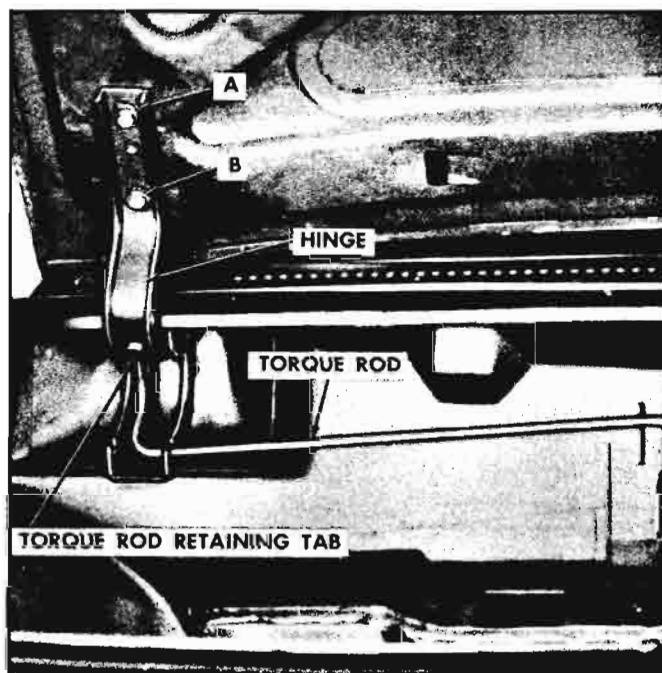
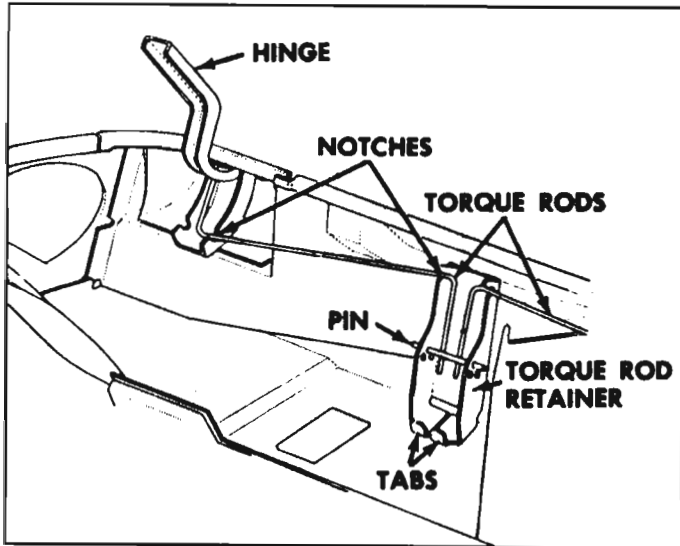

Fig. 10-14—Front Compartment Lid Hinge
Fig. 10-15—Front Compartment Lid Torque Rods
3. With aid of a helper remove lid attaching bolts "A" and "B" (fig. 10-14) from each hinge and remove compartment lid.
- a. To raise rear edge of lid at hinge area, place shim between hinge strap and lid inner panel at rear attaching bolt location indicated by "B" (fig. 10-14).
- b. To lower rear edge of lid at hinge area, place shim between hinge strap and lid inner panel at front attaching bolt location indicated by "A" (fig. 10-14).
3. Place end of large screwdriver or other suitable tool at base of torque rod retainer immediately behind tabs shown in Figure 10-15. Insert block of wood, the approximate width of retainer opening, between shaft of screwdriver and ends of both torque rods immediately below torque rod attaching pin; then carefully pry block rearward to take tension of torque rods off pin and remove pin.
1. Position appropriate torque rod behind retaining tab on movable portion of affected hinge as shown in Figure 10-14 and engage rod in notches in lower portion of hinge assembly and in torque rod retainer (fig. 10-15).